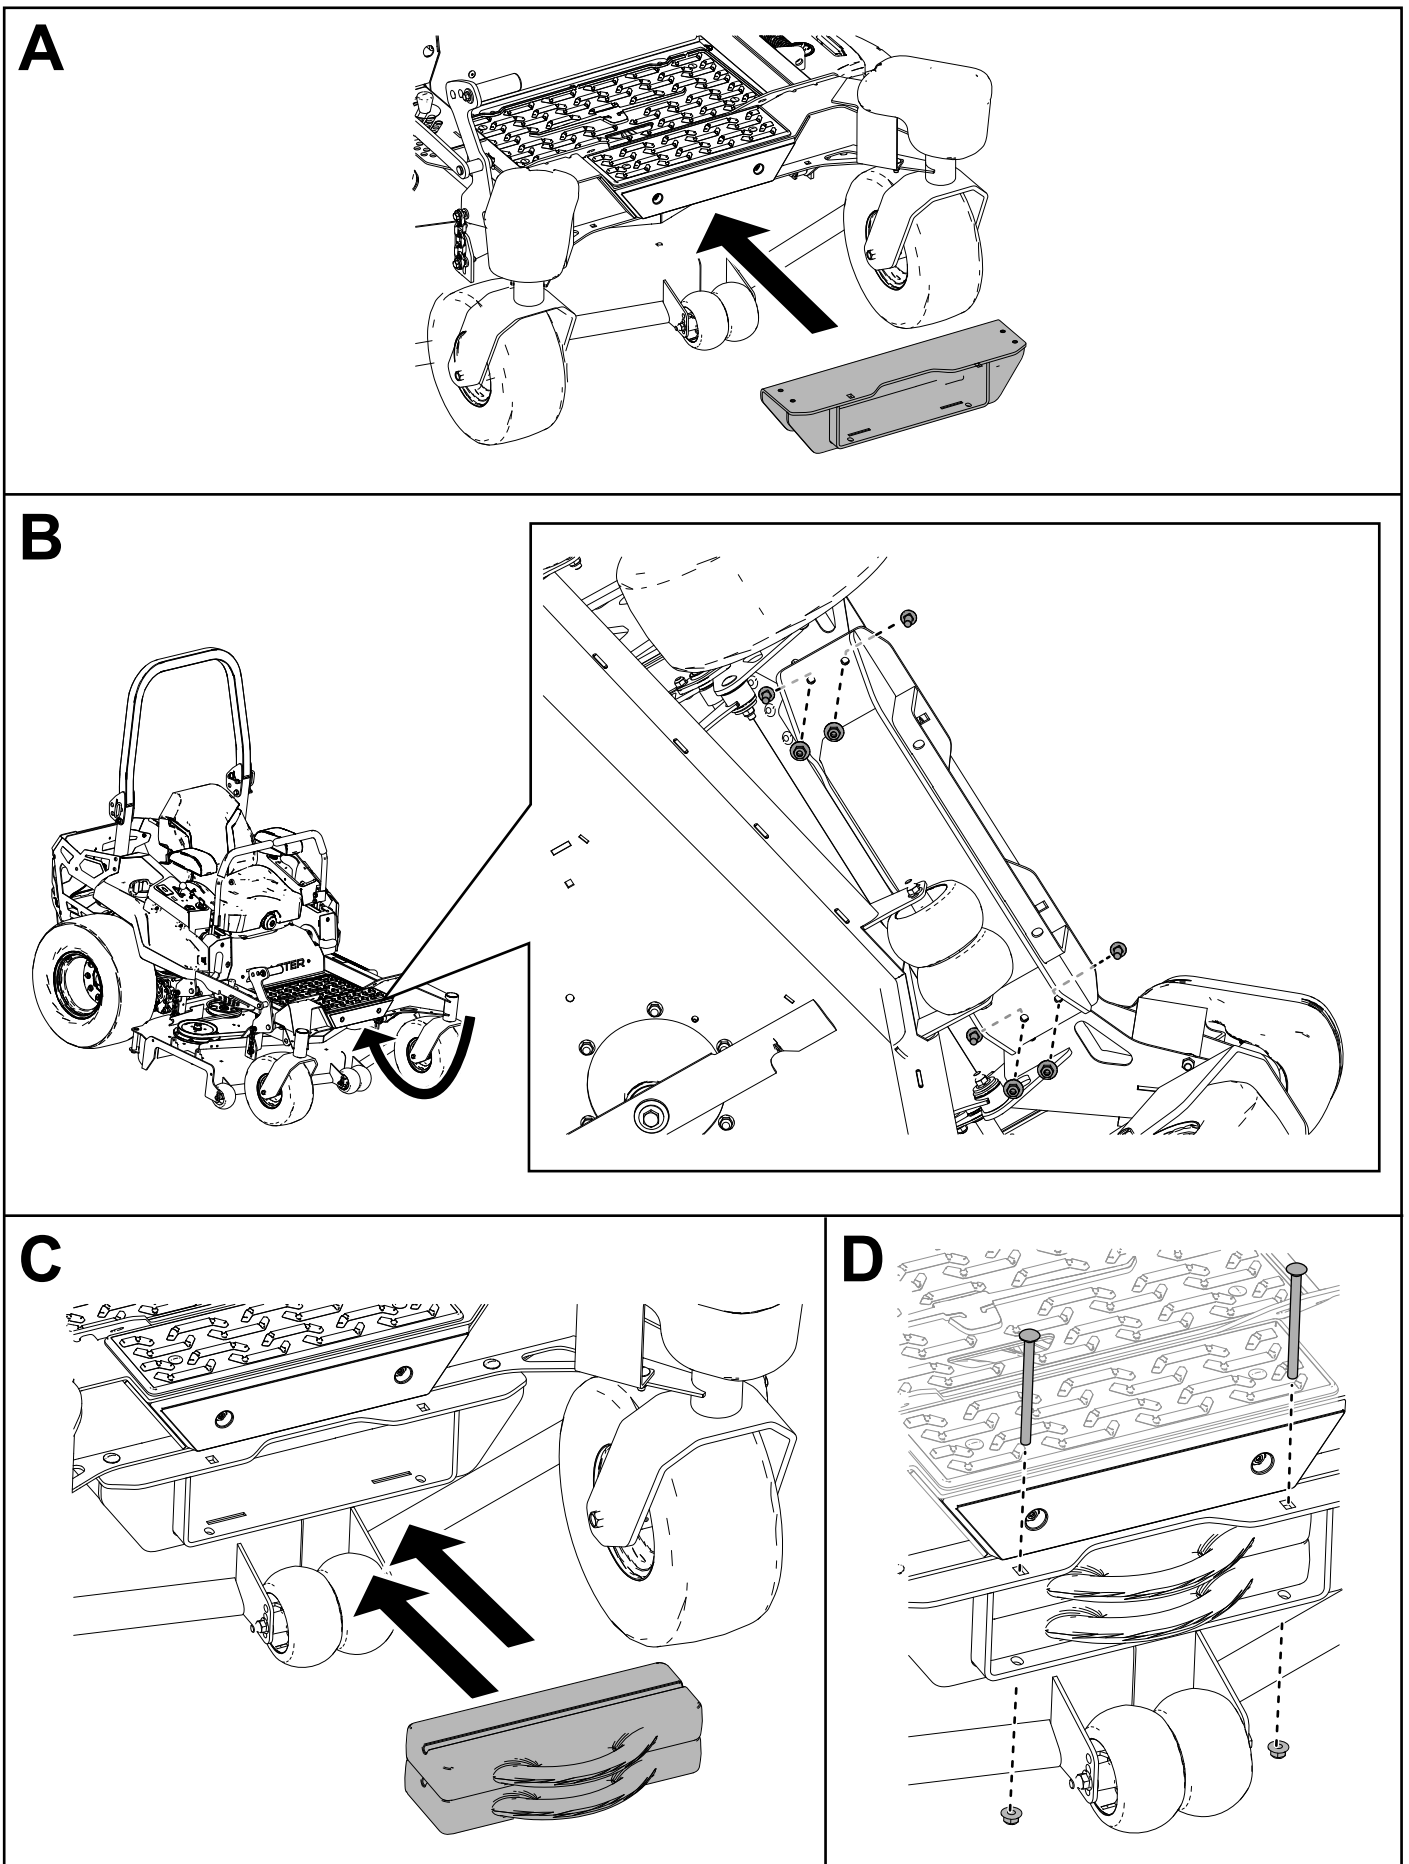

Figure 9
5. Secure the weight bracket assembly to the frame using 4 carriage bolts (3/8 x 1 inch) and 4 flange nuts (3/8 inch) as shown in Figure 9.
6. Insert the 2 suitcase weights into the weight bracket assembly and secure them using 2 carriage bolts (3/8 x 5 inches) and 2 locknuts (3/8 inch) as shown in Figure 9.
3. Secure the weight bracket assembly to the frame using 4 carriage bolts (3/8 x 1 inch) and 4 flange nuts (3/8 inch) as shown in Figure 9.
4. Insert the 2 suitcase weights into the weight bracket assembly and secure them using 2 carriage bolts (3/8 x 5 inches) and 2 locknuts (3/8 inch) as shown in Figure 9.